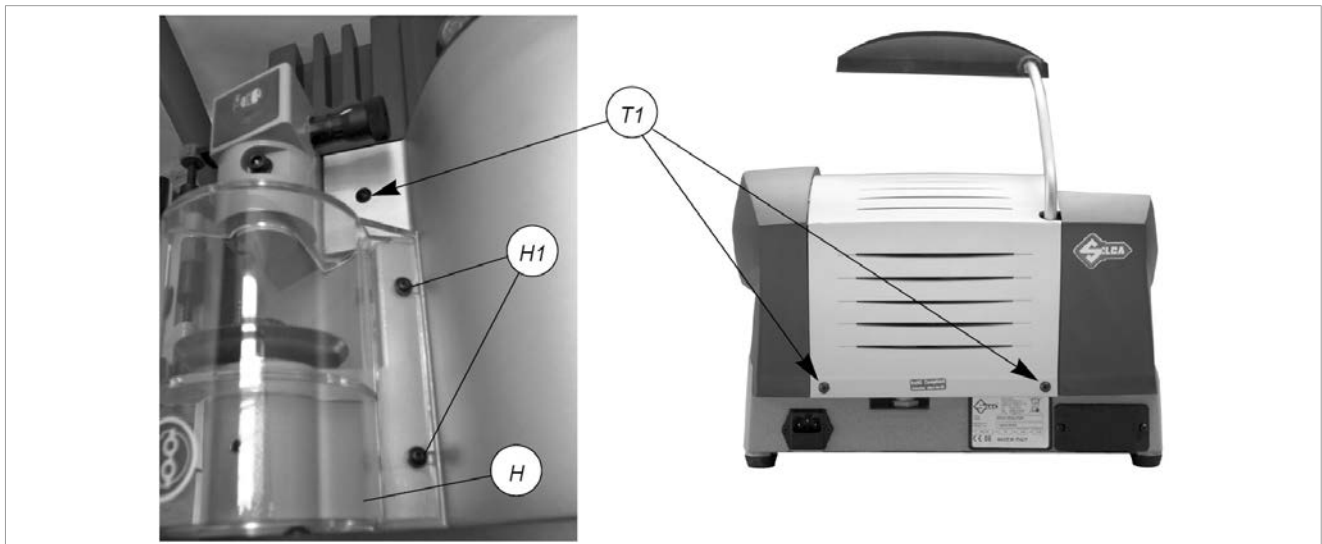

Fig. 36
- 2) Loosen the 2 screws (H1) on the cutter cover (H) and remove (Fig. 36).
- 3) Loosen the 3 screws (T1) on the central cover (Fig. 36), raise slightly and remove, tipping a little.
- 2) Loosen the 2 screws (H1) on the cutter cover (H) and remove (Fig. 36, page 26).
- 7) Replace the central cover and fix with the 3 screws (T1) (Fig. 36).
- 5) Loosen the 2 screws (H1) on the cutter cover (H) and remove (Fig. 36, page 26).
- 6) Loosen the 3 screws (T1) on the central cover, raise slightly and remove, tipping a little (Fig. 36).
- 17) Replace the central cover and fix with the 3 screws (T1) (Fig. 36).
- 18) Replace the cutter cover and fix with the 2 screws (H1) (Fig. 36).